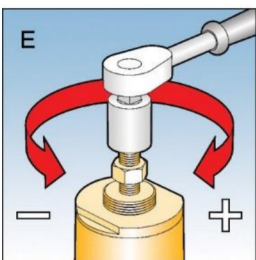

Fig. 4
3. Slacken locknut on spring adjusting stem and connect suitable spanner (24mm A/F) to hexagon of spring adjusting stem. See Fig. 4.